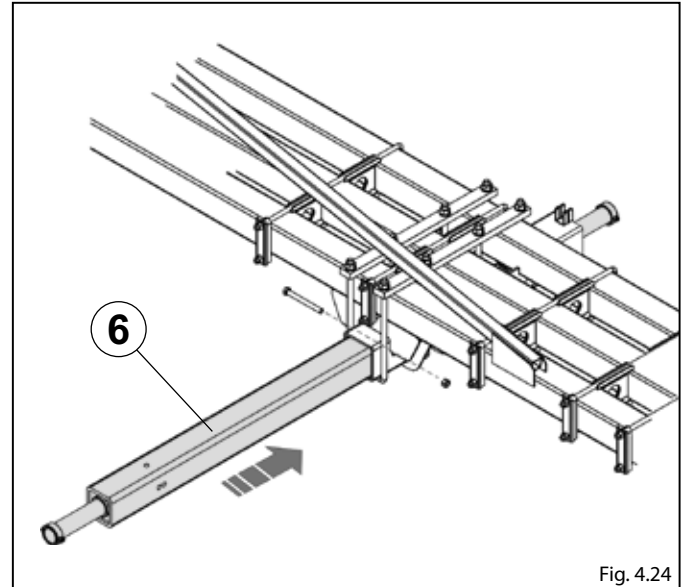

Fig. 4.24
- Mount the wheel supporting tube **6** (Fig.4.24).